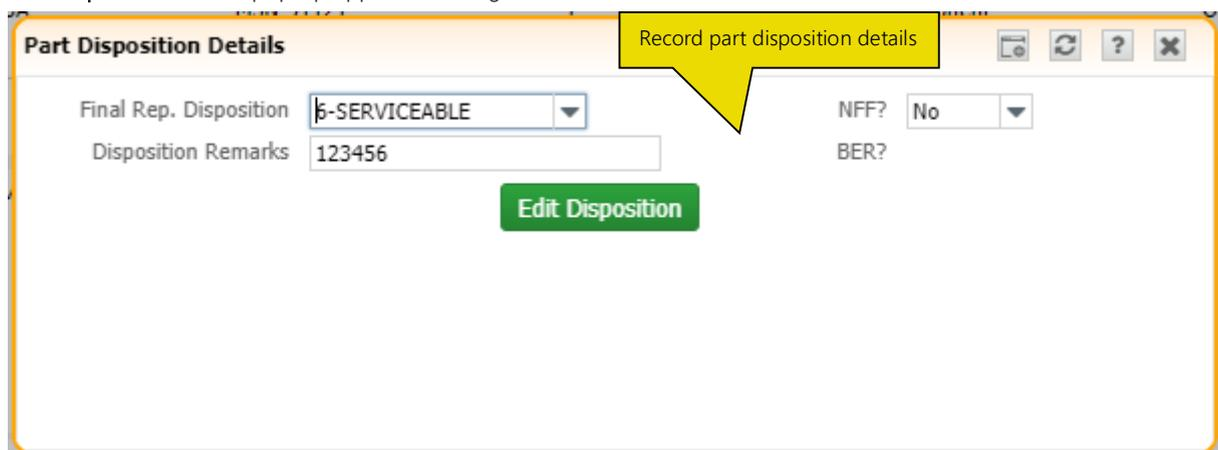

Figure 2.10: Recording disposition details for part
1. Click the **Edit Disposition Details** link in the **Part Disposition** tile of the **Shop Quick Actions Hub** page. The **Part Disposition Details** pop-up appears. See Figure 2.10.